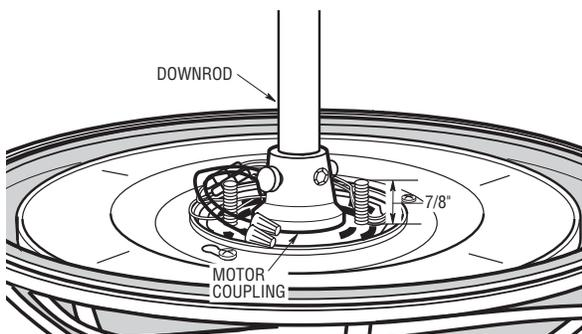

Figure 14
24. Screw two 1-1/4" threaded studs (supplied) into the motor (Figure 14). Leave approximately 7/8" of the stud extending above the motor. Coil the wires and wire connectors around the motor coupling.